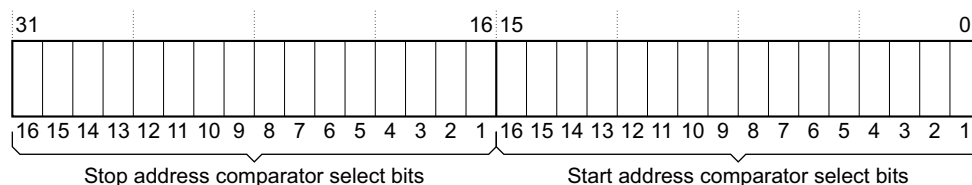

Figure 3-11 ETMTSSCR bit assignments
- Figure 3-11 shows the ETMTSSCR bit assignments.